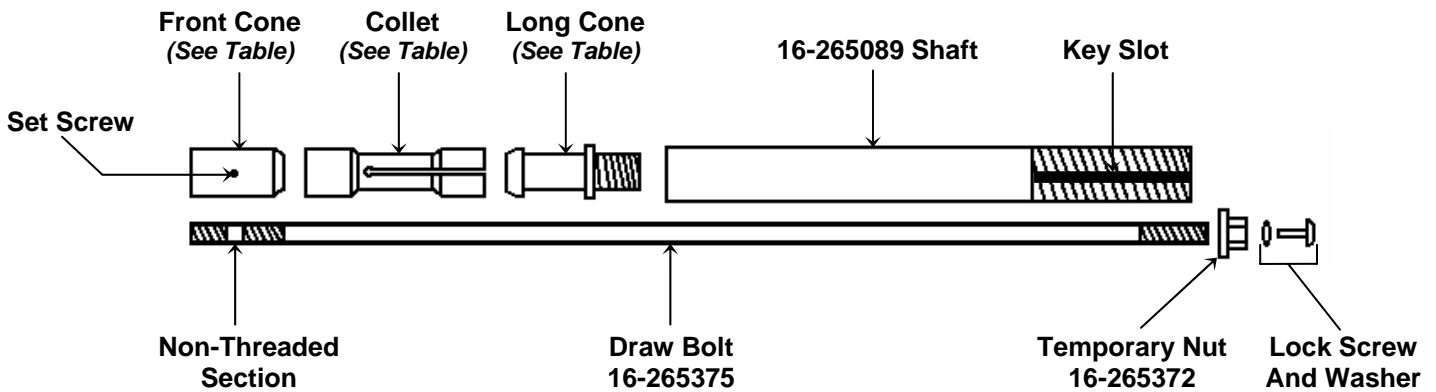

Figure 1
2. Select the mandrel components from Figure 1 and Table 1.